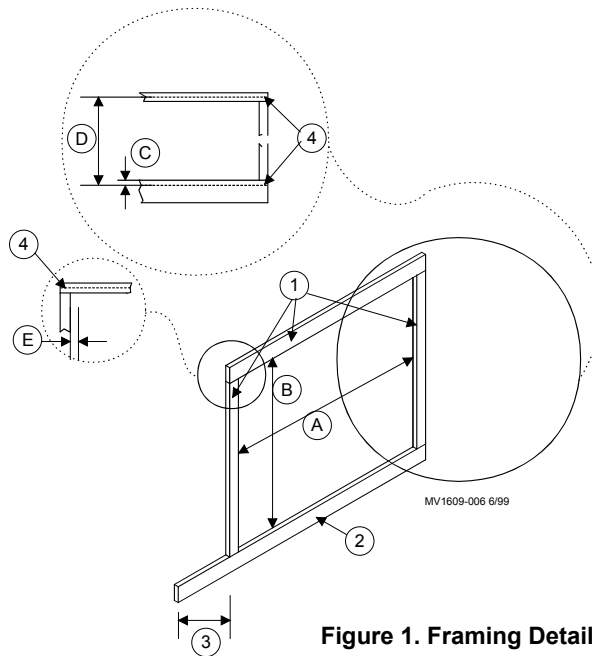

Figure 1. Framing Detail
2. Snap a chalk line on the bottom 2 x 6 **Figure 1-Item C**, 9/16" from the top edge going downward.
Start first cover from sump end. Align holes in top cover as shown in **Figure 1, Dim E**.
2. Bottom Bracket should align with chalkline, see **Figure 1, Dim C**.